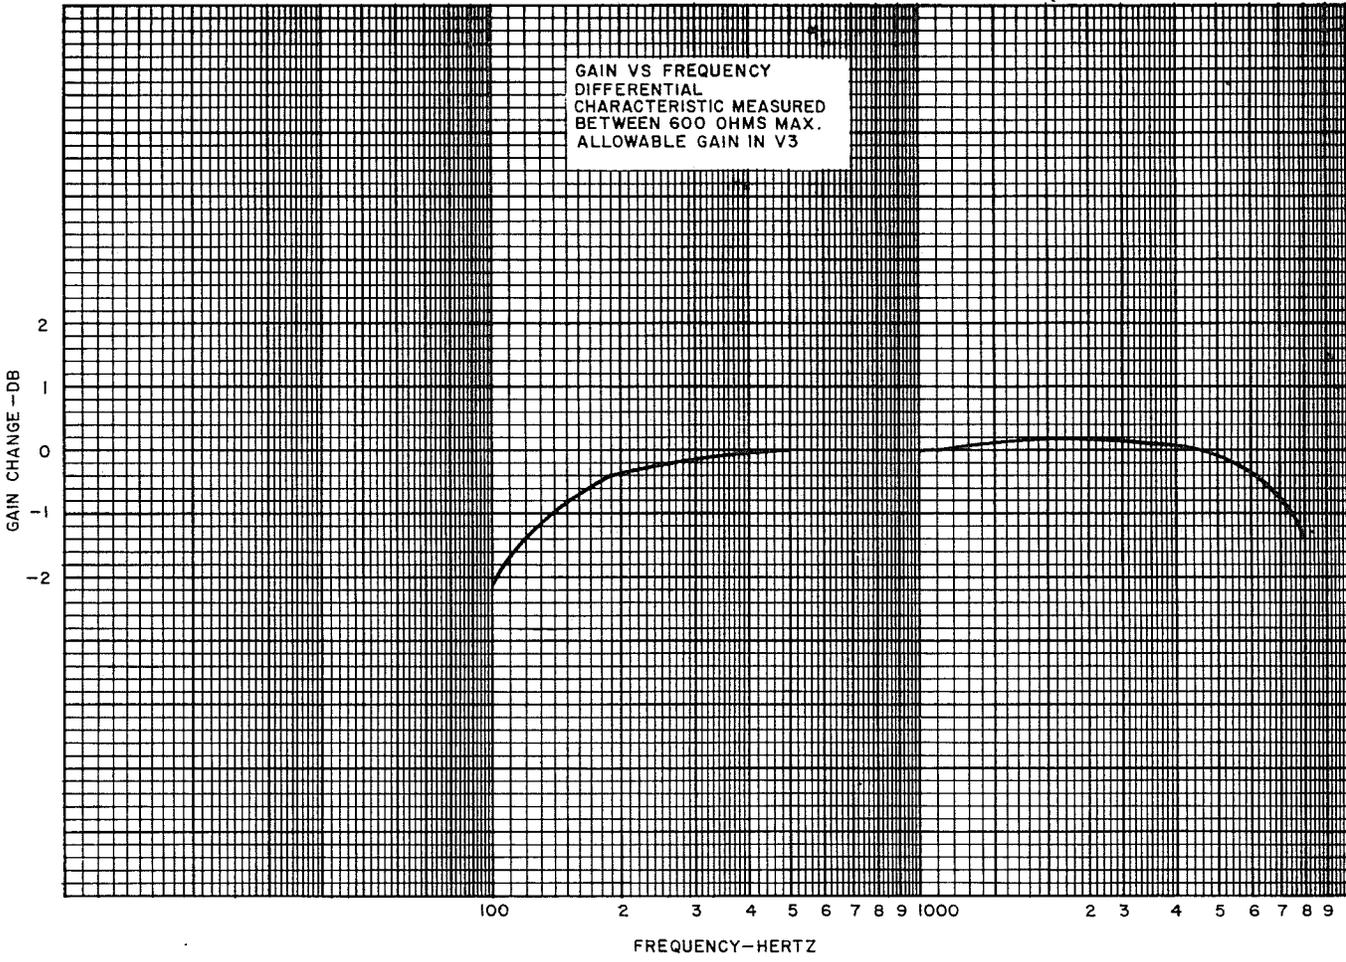

Fig. 4—Gain vs Frequency
3.03 The gain frequency characteristic is essentially flat from 300 to 5000 Hz. (See Fig. 4.)